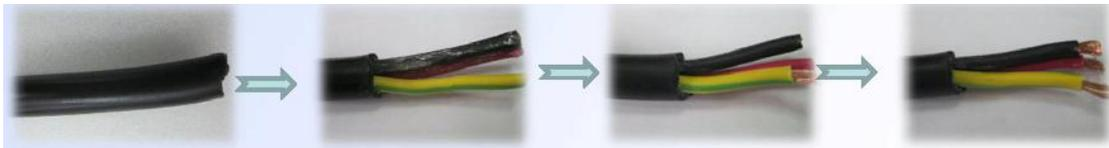

Figure 4-10
- Strip the jacket of cable (40 ± 1 mm) and strip the insulation (7.5 ± 0.5 mm), see Figure 4-10.